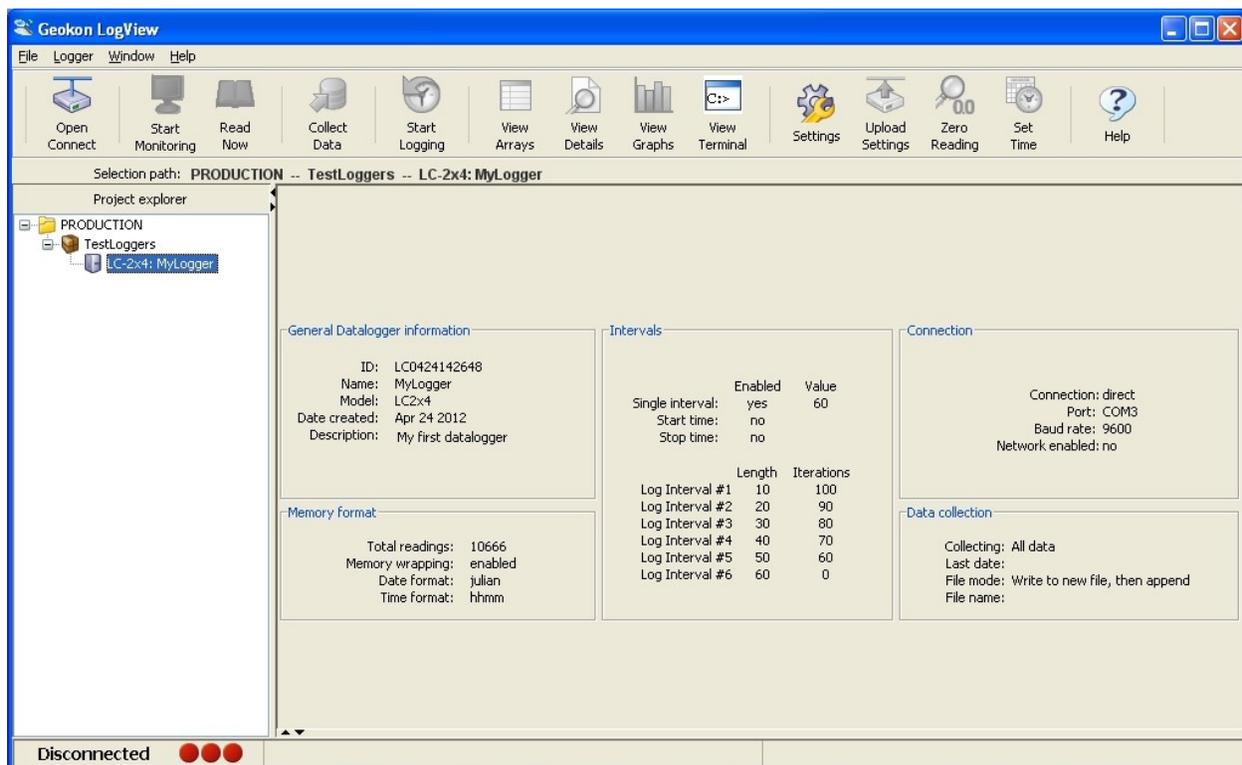

Figure 14 - Datalogger Highlighted, Not Connected
- 1) With a Datalogger profile configured and selected in the Project Explorer (see Figure 14), click on the **“Open Connect”** button on the LogView Toolbar.